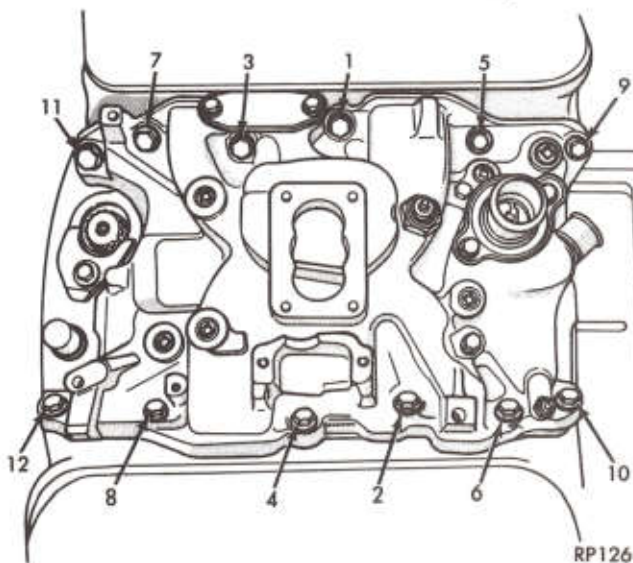

Fig. 12—Intake Manifold Screw Tightening Sequence
(12) Carefully install the front and rear intake manifold gaskets.
(13) Place a drop (approximately 1/4" diameter) of rubber sealer Part Number 4318025 or equivalent, onto each of the **four** manifold to cylinder head gasket corners.
(14) Carefully lower intake manifold into position on the cylinder block and cylinder heads. After intake manifold is in place, **inspect to make sure seals are in place.**
(15) Install the twelve attaching cap screw "Finger Tight." Tighten cap screws one through four to 25 ft. lb. (34 N-m) and tighten remaining cap screws to 25 ft. lb. (34 N-m) in the tightening sequence shown in (Fig. 12) then retighten cap screws one through four to 50
ft. lb. (54 N-m) and follow by retightening the remaining cap screws to 40 ft. lb. (54 N-m) in sequence shown. (Fig. 12).